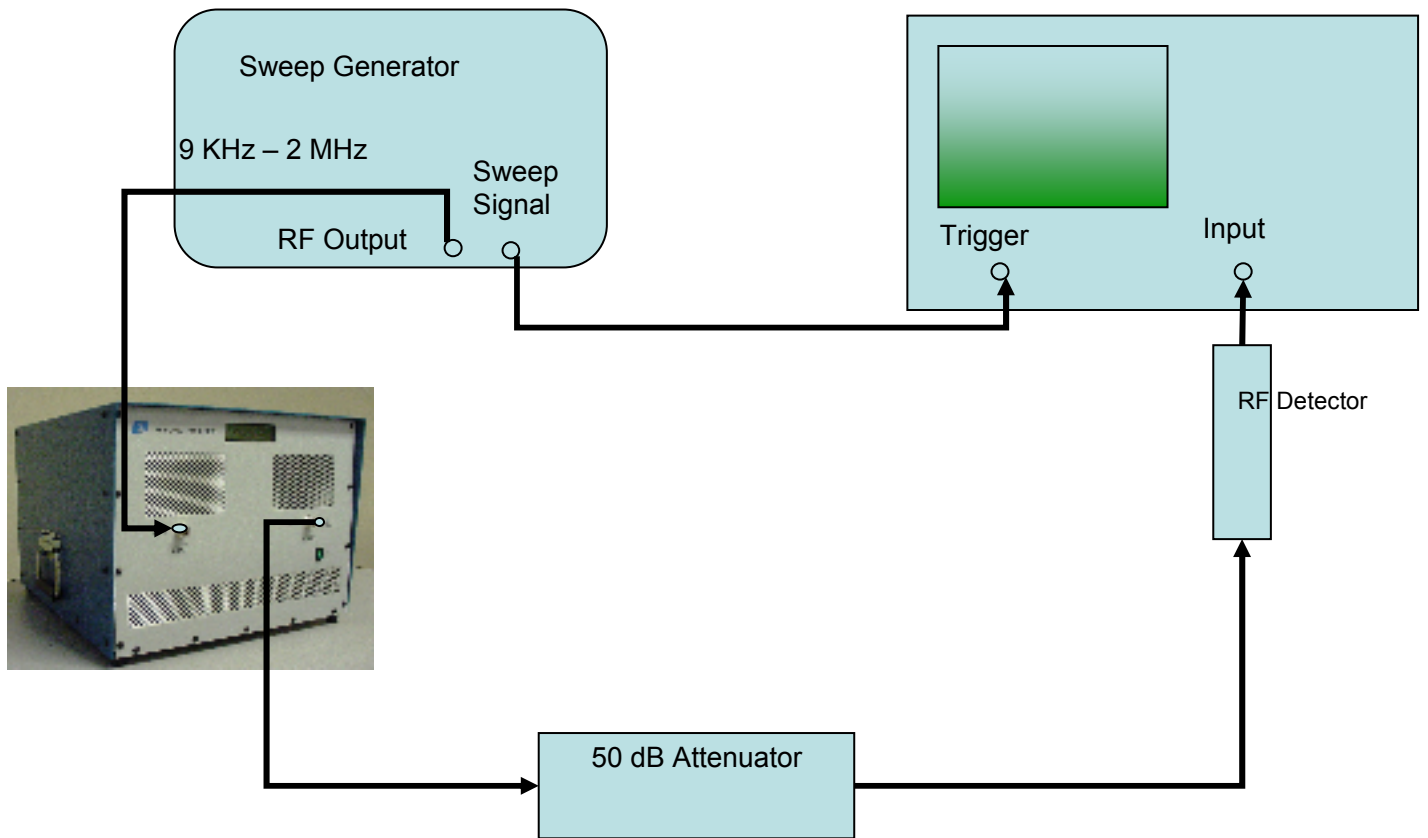

Figure 4-1. Gain Measurement
#### 2. Connect the equipment as shown in Figure 4-1, then proceed as follows:
- g) Reconnect the 1140LA into the test set-up of Figure 4-1.